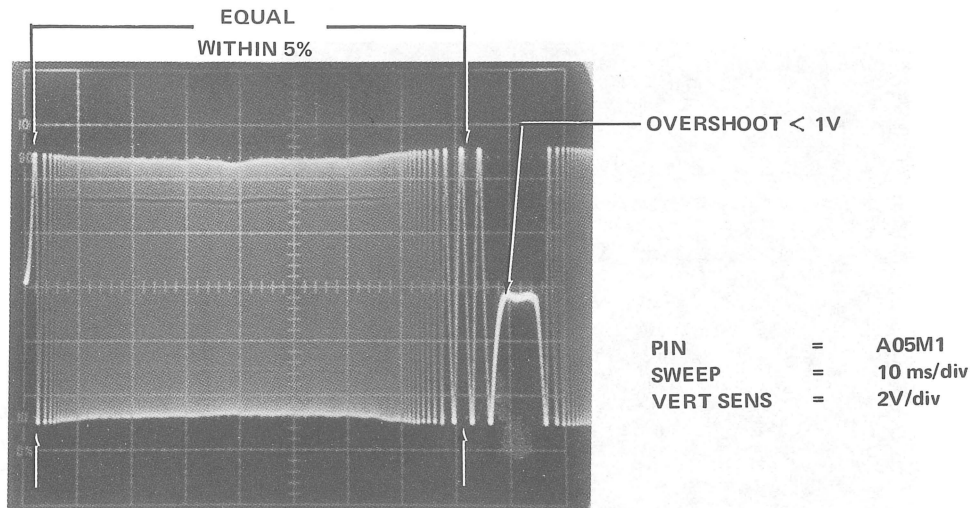

Figure 5-16 Full Stroke Position Waveform
- b. Set the scope vertical sensitivity to 2V/div and observe A05M1 (SIN POSITION) for a scope display as illustrated in Figure 5-16. The waveform amplitudes at the start and end of the seek must be equal within 5% and the overshoot at the end of the seek must not exceed 1V.